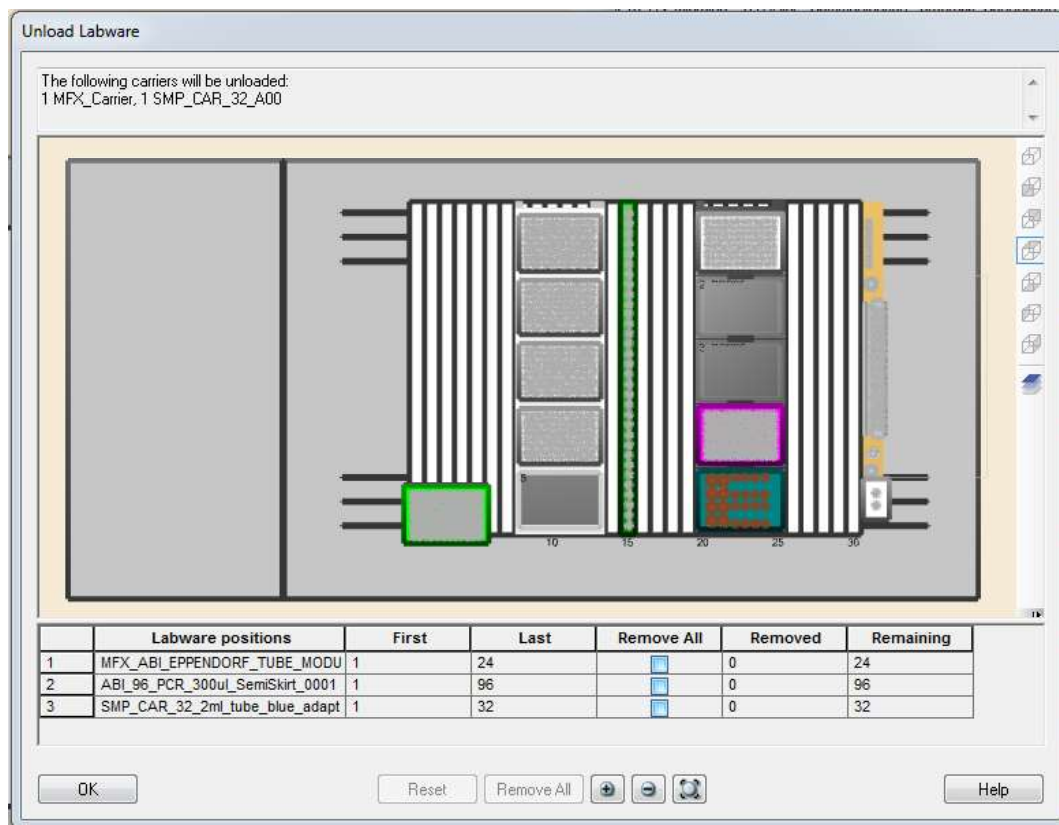

Figure 7 Unload carriers from the STARlet at the end of the run.
24. When the run is finished, a prompt will appear asking to unload the carriers (see Figure 7). Click OK and the carriers will automatically unload.